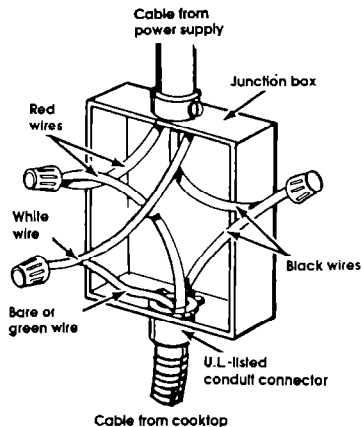

Figure 1
3. Connect the two black wires together. Then connect the two red wires together. (See Figure 1.)